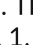

Figure 2
1. Connect the device as shown in Fig. 2 (when using the device in the analog signals measurement mode) or in accordance with Fig. 3 (when using the device with digital sensors). A 12 V battery can be used as a power source. Supply voltage can be read (tab.6 address 7). To connect the device to the ModBus network, use CAT.1 or higher twisted pair cable.
Connect the external device as shown in Fig. 2 (e). Set up the device for operation in the Pulse Counter Mode (Table 2, address 100, value "0").
Connect the device according to Fig. 2 (d). Set up the device for operation in the Logic Input/Pulse Relay Mode (Table 2, address 100, value "1"), set the required pulse count mode (Table 2, address 106, value "2").
Connect the device according to Fig. 2 (d). Set up the device for operation in the Logic Input/Pulse Relay Mode (Table 2, address 100, value "1"), set Pulse Counter Mode (Table 2, address 106, value "0" or value "1"). For short-time pulse with duration of at least the value specified in Table 2 (Address 107, the value in ms) at the «IO2» terminal (Fig. 1, it. 6), the device closes the contacts of the "C - NO" relay and opens the contacts of the "C - NC" relay.
Connect the device according to Fig. 2 (b). Set up the device for operation in the Voltage measurement mode (Table 2, address 100, value "2"). If it is necessary that the device monitors the threshold voltage, it is required to write a value other than "0" in the "Relay control" register (Table 2, address 103). If required, set the operation thresholds (Table 2, address 104 - upper threshold, address 105 - lower threshold).
Connect the device according to Fig. 2 (a). Set up the device for operation in the "Current measurement" mode (Table 2, address 100, value "3"). If it is necessary for the device monitors the threshold current, it is required to write a value other than "0" in the "Relay control" register (Table 2, address 103). If required, set the operation thresholds (Table 2, address 104 - upper threshold, address 105 - lower threshold).